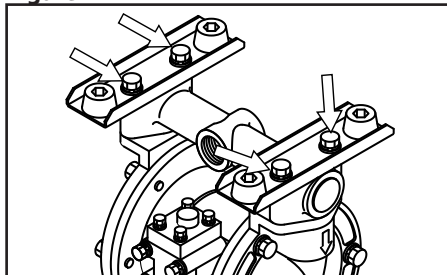

Figure 13
- Remove the retainer bolts from the in manifold and remove the in manifold (See Figure 13).